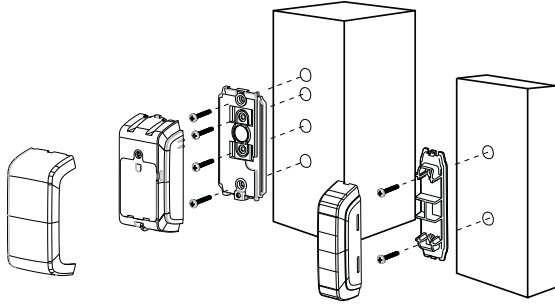

Figure 5 - Flat surface mounting
4. Mark and drill four holes in the mounting surface, as in Fig. 5.
7. Mount the magnet base with two supplied screws to an adjacent surface and attach the magnet to the magnet bracket, as in Fig. 5.